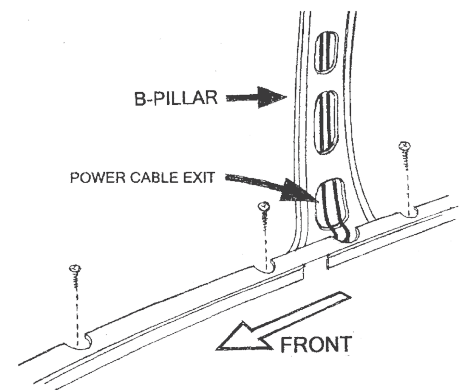

Fig. 6
17. The two cables will make an approximate 90° bend into the B-pillar. Depending on the vehicle, this can sometimes be difficult, but it is the recommended procedure for proper installation. Installation will vary for each make and model vehicle and it is up to the installation technician's discretion whether to route the power cable as recommend through the B-pillar or use an alternative routing method. Route the two cables down to the bottom of the B-pillar and the pull the full length of each cable into the interior of the vehicle. See Fig. 6.